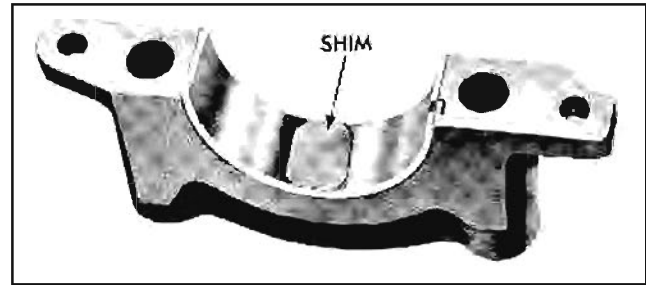

Fig. 6-52 Shim Positioned in Bearing Cap
1. Place .002" brass shim $\frac{1}{2}$ " wide by 1" long in main bearing cap with new standard bearing and install cap, pulling up bolts 95 lb. ft. except rear main torque to 120 lb. ft. in step 6. Refer to Fig. 6-52 for position of shim in cap.